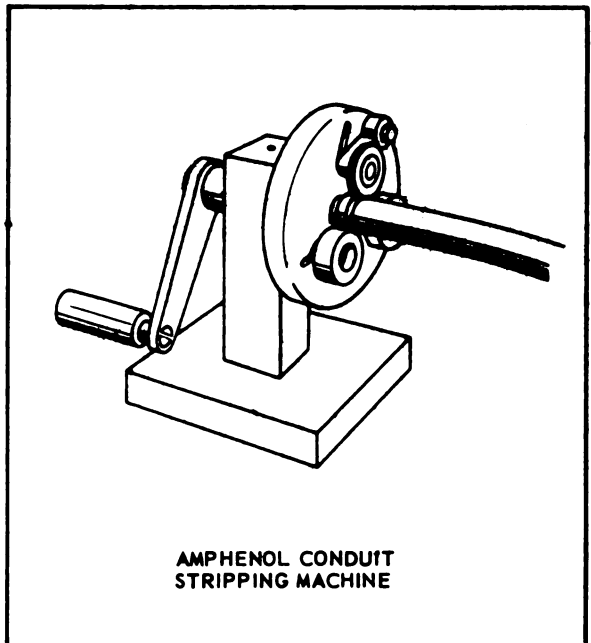

Figure 11-9. Stripping Rubber Cover from Flexible Conduit
- h. For rubber covered flexible conduit, strip rubber cover with a knife, or with a stripping fixture as shown in figure 11-9. See table 11-3 for stripping length.
- h. Trim off rubber cover 1/8 inch with a knife or stripping fixture as shown in figure 11-9.
- d. Trim of rubber cover 5/8 inch with a knife or trimming fixture as shown in figure 11-9.